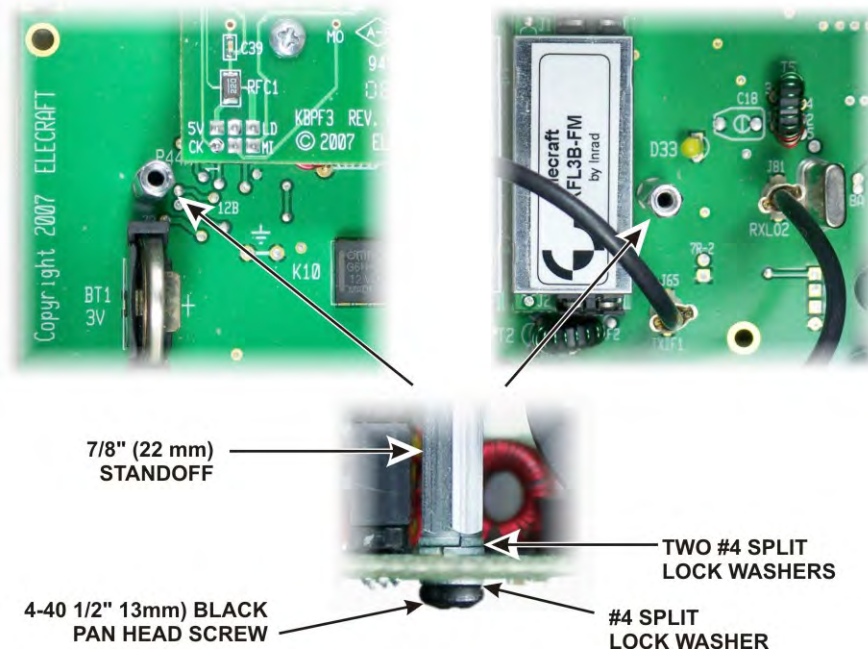

Figure 24. Mounting Standoffs on the K3 RF Board.
□ Install two standoffs on the K3 RF board (the large board filling the bottom of the K3) as shown in Figure 24. One standoff is mounted next to battery BT1 and the other is mounted next to FL1. Be sure to use two lock washers between the standoffs and the board as shown. They are required to obtain the proper height.